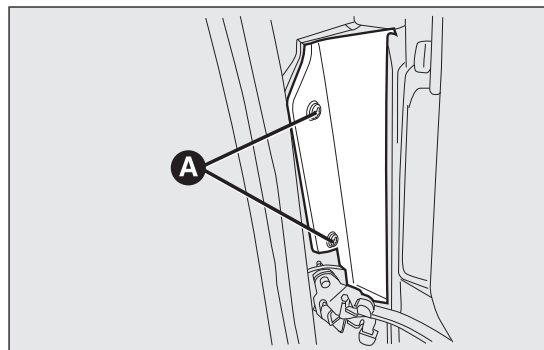
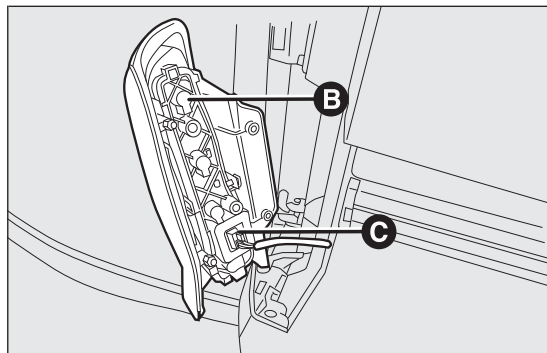

fig. 140
fig. 141
- ☐ loosen the screws A fig. 140 so as to access the light cluster B fig. 141;
- ☐ remove the connector C fig. 141.